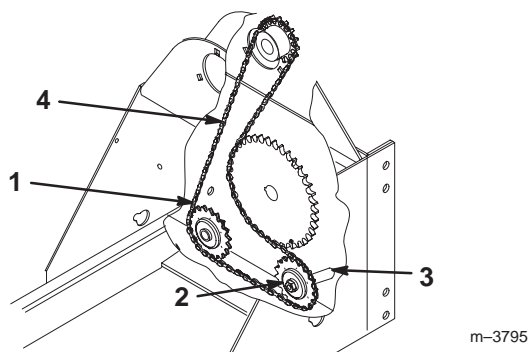

Figure 49
Check the drive chain tension after every 25 operating hours or once a year, whichever occurs first. It should have 1/8 to 1/2 in. deflection in the area indicated in Figure 49. If it does not meet this specification, use the following procedure to adjust it.
2. Loosen the nut that secures the idler sprocket. (Fig. 49).